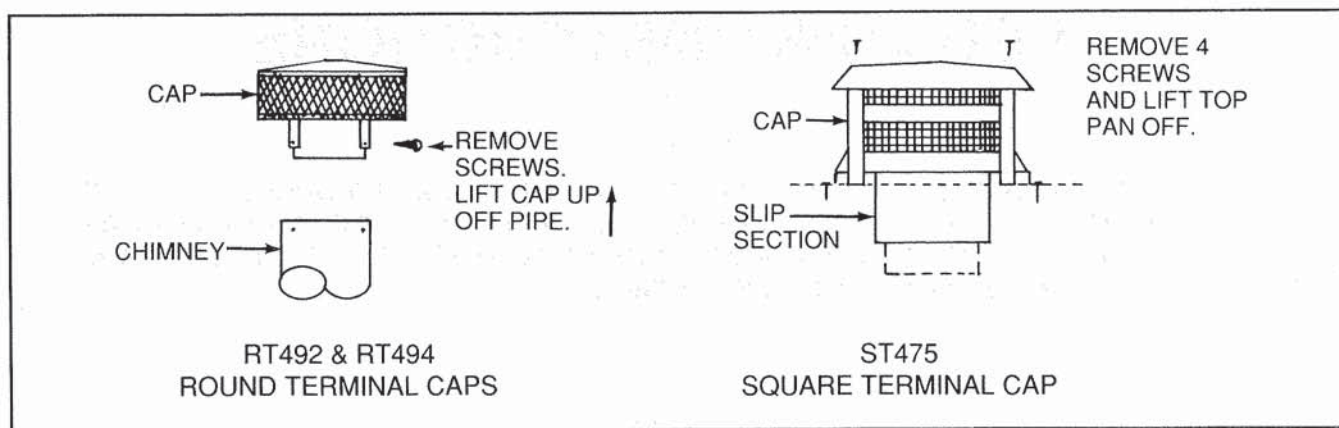

Figure 20
3. Remove the Terminal Cap. See Figure 20.